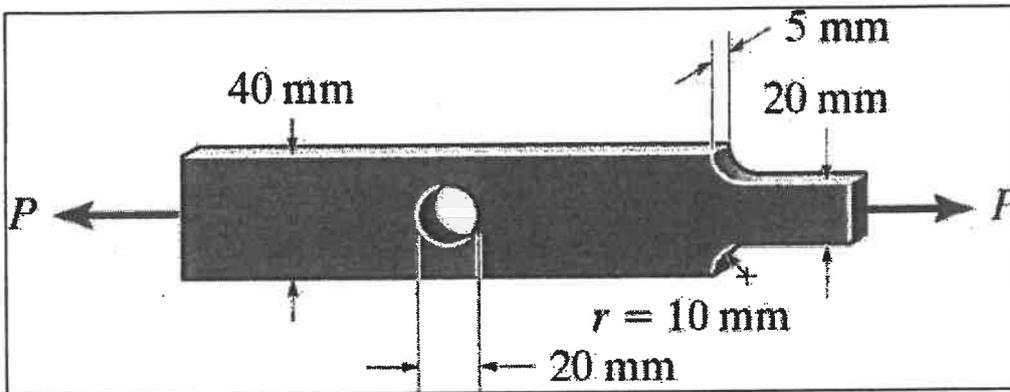

Figure 3
- (a) Figure 3 shows a bar with dimensions in mm subjected to a tension force of $P = 8 \text{ kN}$. Calculate the maximum normal stress developed in the bar. (Refer to Appendix A).